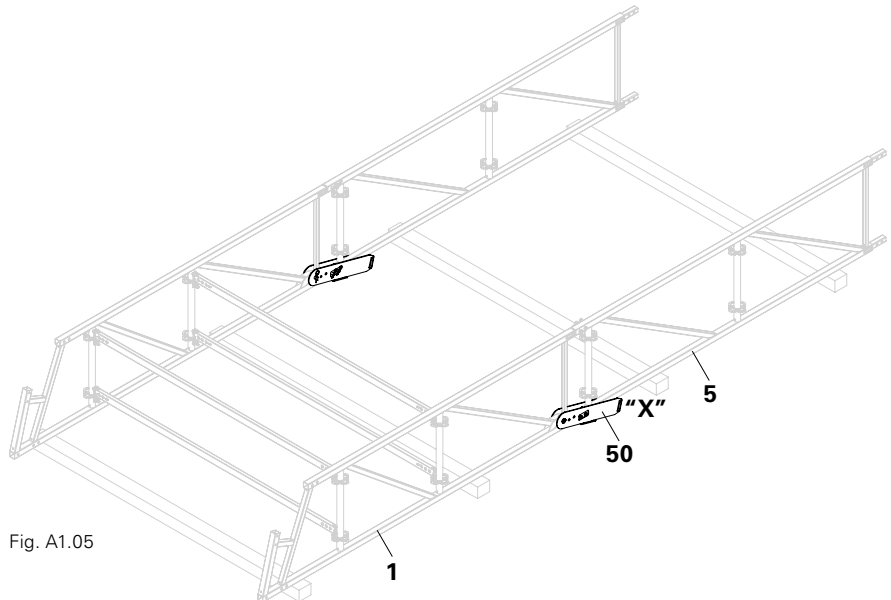

Fig. A1.05
1. Slide the tube of the standard element (**5**) into the pin of the eave element (**1**). (Fig. A1.05)